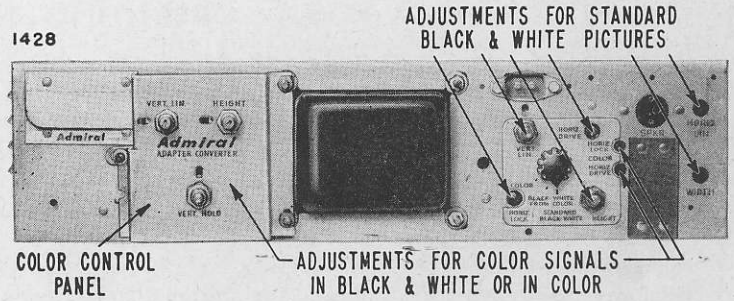

Figure 7. Back View of TV Chassis with Adapter-Converter installed, showing Locations of Controls and Adjustments.
Picture adjustments for black-and-white pictures from color signals are made the same as for "Standard Black-and-White" pictures with the exception that separate controls are used for some adjustments. See figures 7 and 8. Make these picture adjustments as instructed in the following paragraphs.
Height and vertical linearity adjustments for pictures from Color signals are made using a separate set of controls. The Height and Vert. Lin controls for pictures from "Color" signals are mounted on the Color Control Panel at the rear of the chassis, to the left of the power transformer. See figure 7.
A separate Horiz. Lock trimmer is used for adjustment of the horizontal oscillator when receiving pictures from a Color signal. See figures 7 and 8 for adjustment locations.
- d. Using a non-metallic screwdriver, adjust the Horiz. Lock trimmer (for Color signals) until the picture is in sync. See figures 7 and 8 for adjustment locations.
A separate Horiz. Lock trimmer is used for adjustment of the Horizontal oscillator for operation from a Color signal. See figure 7 for adjustment locations.
4. Switch the Color Change Switch to the "Black-White From Color" position. Set the Horizontal Hold control on the front panel at the center of rotation. Using a non-metallic screwdriver, adjust the Horiz. Lock trimmer (for color signals; see figure 7) until four cycles of the horizontal waveform appear on the oscilloscope screen.
A separate HORIZ. DRIVE trimmer is used for horizontal drive adjustment for operation from a "Color" signal. See figures 7 and 8 for adjustment locations.